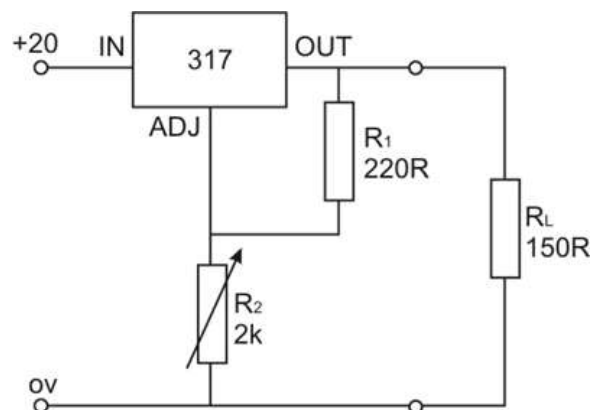

Figure 14. Adjustable voltage three terminal regulator
6. For the circuit of Figure 14, state the expected voltage across the 150R resistor under the following conditions: